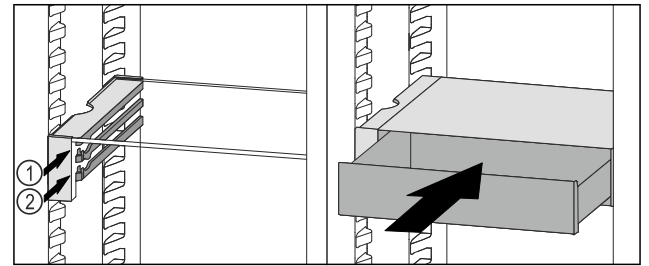

Fig. 55
- ▶ Place the VarioSafe drawer behind the stoppers on desired rib Fig. 55 (1) or Fig. 55 (2).